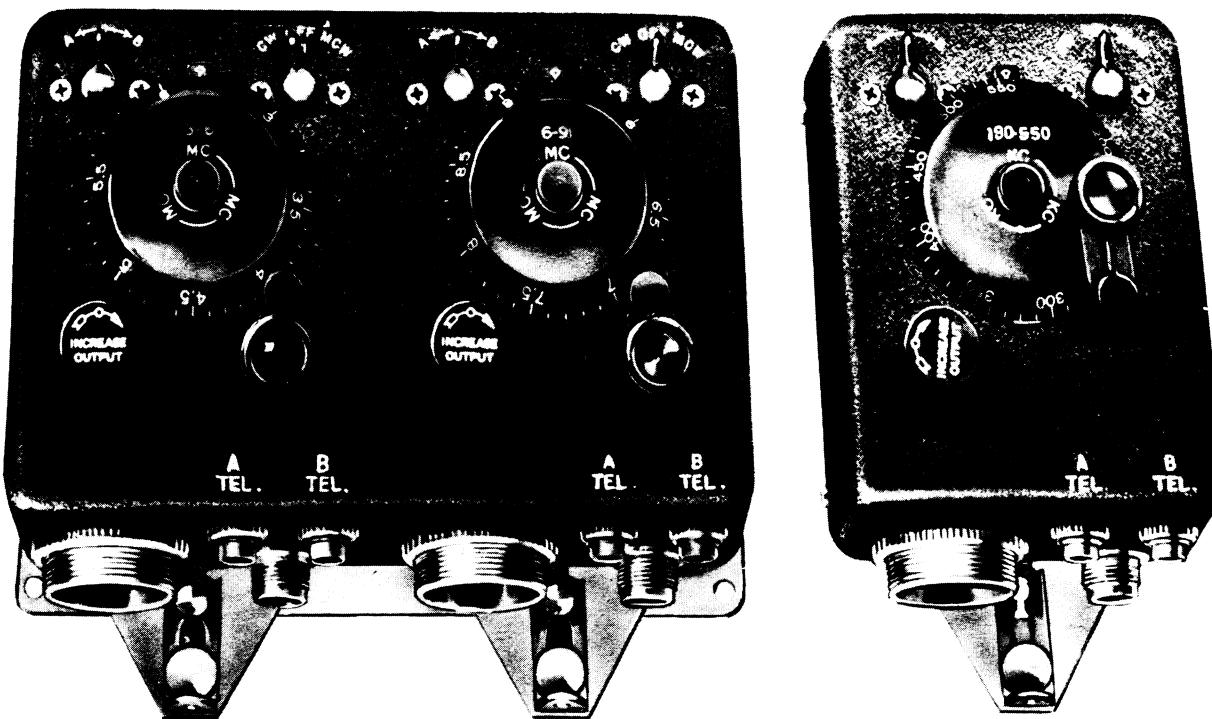

FIGURE 10 — LEFT, RADIO CONTROL BOX BC-496-A (FOR TWO RECEIVERS; RIGHT, RADIO CONTROL Box BC-473-A (OR -B) (FOR ONE RECEIVER)
- (1) Radio Control Box BC-450-A provides for three radio receivers. It is shown in Figures 1 and 9, and a schematic circuit diagram of the electrical connections is shown in Figure 26. Radio Control Boxes BC-496-A and BC-473-A (or -B) provide for two and one receivers, respectively. They are shown in Figure 10. Practical wiring diagrams for the three units are shown in Figure 45. Electrically and mechanically,